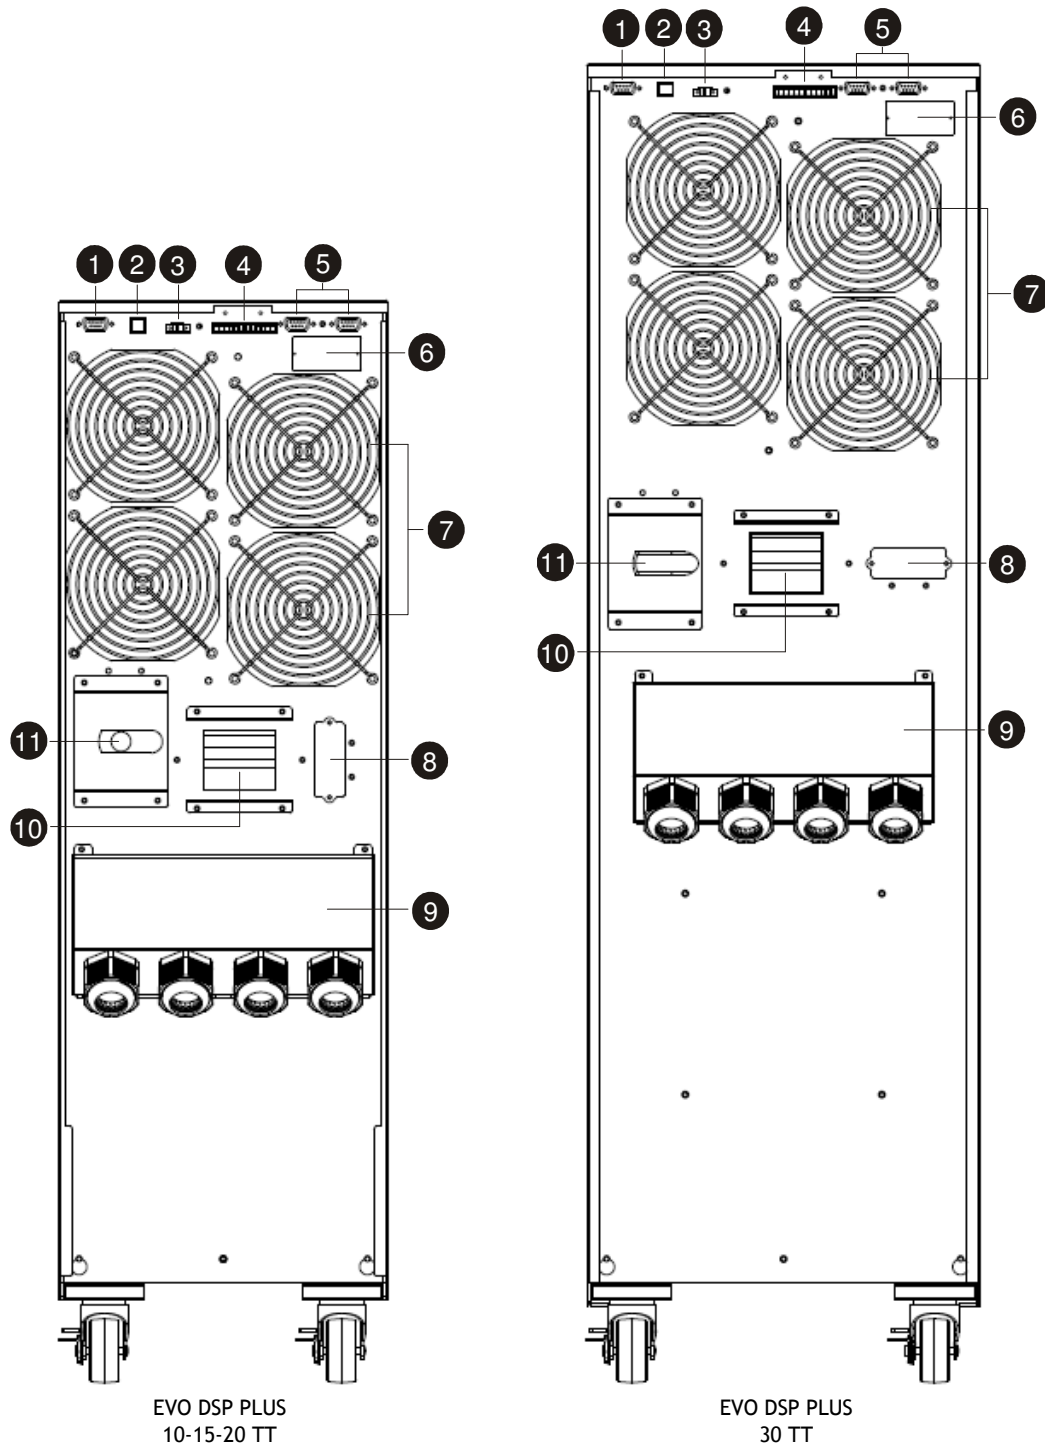
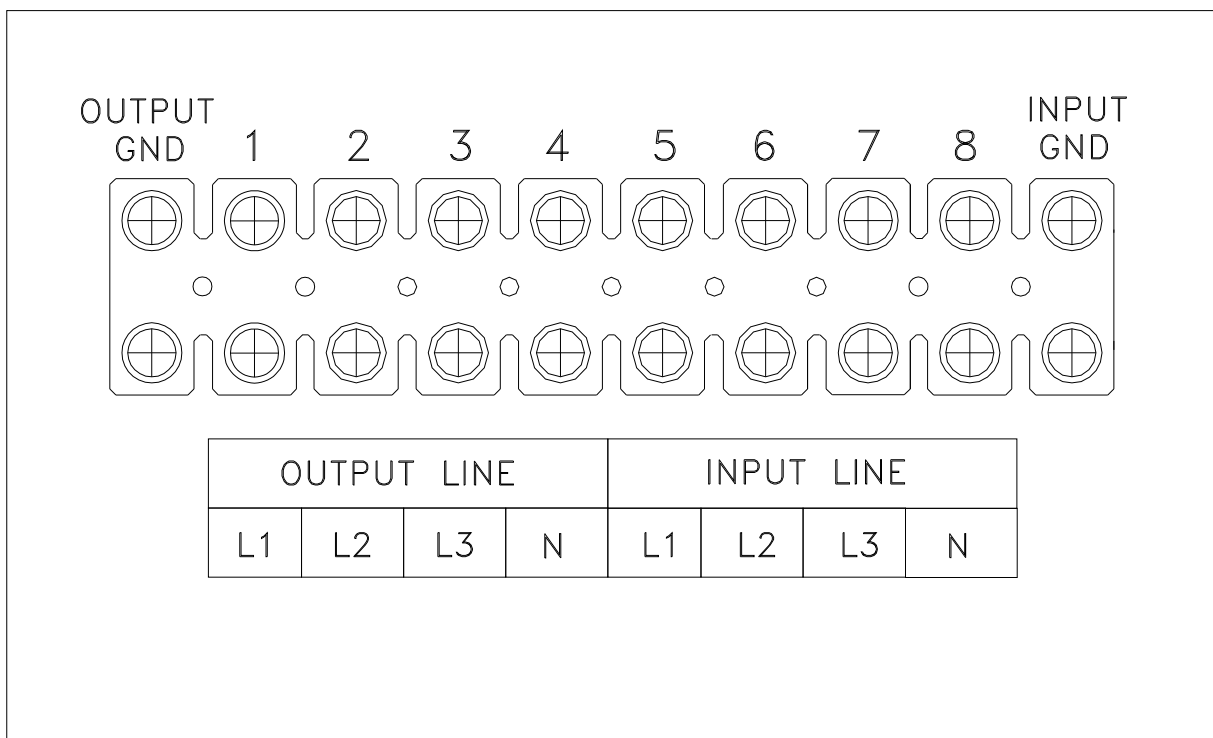

Figure 4 - Rear side
Figure 5 - Input/Output Terminals
9. **Metallic panel for access to the Input/Output terminals:** upon removal, it is possible to access the Input/Output terminals (see figure 5).
1. The Input circuit breaker on the rear panel is “OFF” (see figure 4).
1. Remove the **metallic panel that covers the Input/Output terminals**, see figure 4. The terminals are shown in figure 5. All the cables have to reach the terminals from the rear side using the proper holes in the metallic panel.
2. Connect the **INPUT** line paying attention to the right polarity, in accordance with figure 5, as explained below:
3. Connect the **OUTPUT** line paying attention to the right polarity, in accordance with figure 5, as explained below:
- ▶ Remove the metallic panel that covers the External Battery Box connector (#8, figure 4).
- ▶ Connect the Battery cable (supplied with the Battery Box) to the External Battery Box connector (#8, figure 4) of the UPS.
1. Check if the Input circuit breaker the rear side is in “OFF” position (see figure 4).